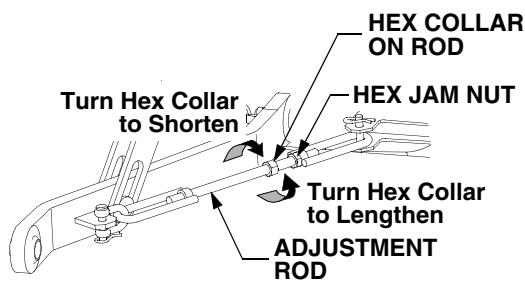

Figure 29
- The length of the hitch chains limit the side-to-side movement of the hitch lower links. To adjust the length of the hitch chains, loosen the jam nut and turn the hex collar on the adjustment rod as shown in Figure 29. Tighten the jam nut after adjusting.